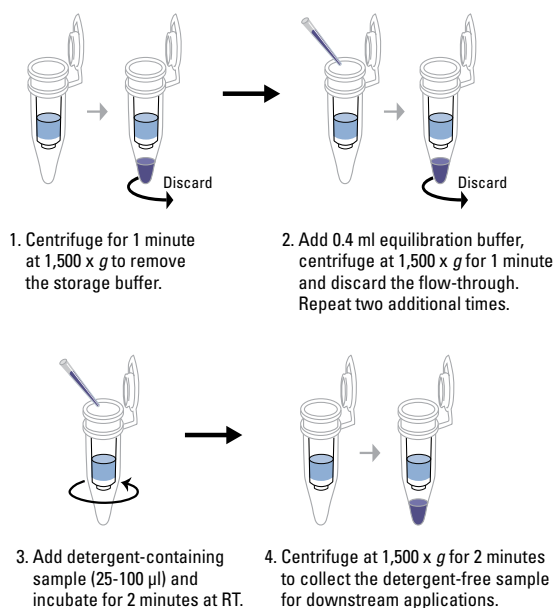

Figure 1. Protocol summary for Thermo Scientific Pierce Detergent Removal Spin Columns (0.5 ml).
Detergents or surfactants are important for solubilizing, stabilizing and disaggregating proteins; however, detergents interfere with many downstream analysis methods. Therefore, it is often crucial to remove non-bound detergents before using protein samples for ELISA, isoelectric focusing or mass spectrometry (MS). Unfortunately, typical sample clean-up methods, such as dialysis and size-exclusion chromatography, are often ineffective at removing detergents. We developed an efficient and rapid spin-column method (Figure 1) for removing detergents from protein and peptide solutions. The Thermo Scientific Pierce Detergent Removal Resin efficiently removes high concentrations of detergents from 0.01-1 ml samples with minimal sample loss.